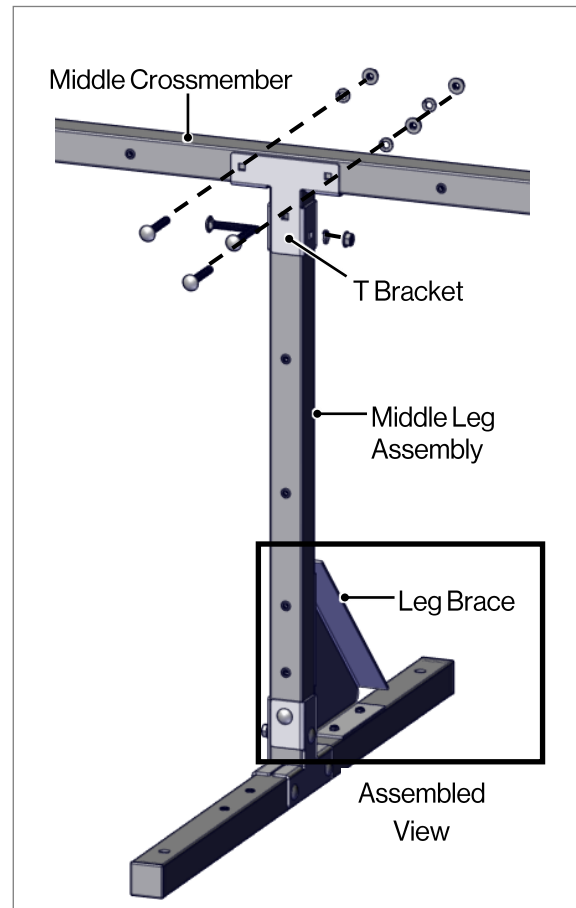

Fig. 8
- Assemble the Middle Leg Assembly to the Middle Crossmember using two (2) T Brackets, four (4) Carriage Bolts, four (4) Lock Washers, and four (4) Flange Nuts (Fig 8).
- Attach the Leg Brace to the Middle Leg Assembly with four (4) Hex Bolts.